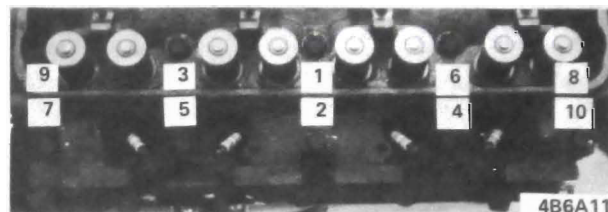

Figure 6A-60 - Cylinder Head Bolt Tighten Sequence (455 Shown)
5. Install head bolts. Tighten the bolts a little at a time about three times around in the sequence shown in Figure 6A-60. Give bolts a final torque in the same sequence. Torque to 80 lb.ft. (350 Cu In.) and 100 lb. ft. (455 Cu. In.).